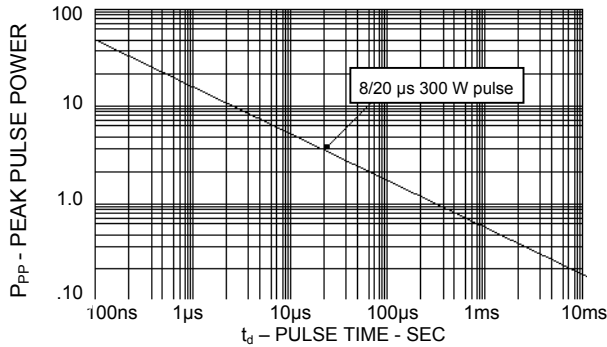

FIGURE 1
- SL03 thru SL24 have a Peak Power: 300 Watts (8/20 usec, Figure 1)